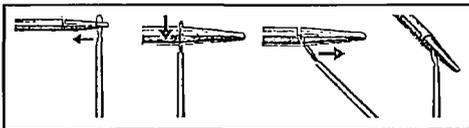

Figure 2: Association Loop Engagement
- 7. Engage one (1) association loop to the distal end of the needle (see Figure 2) protruding through the vagina.